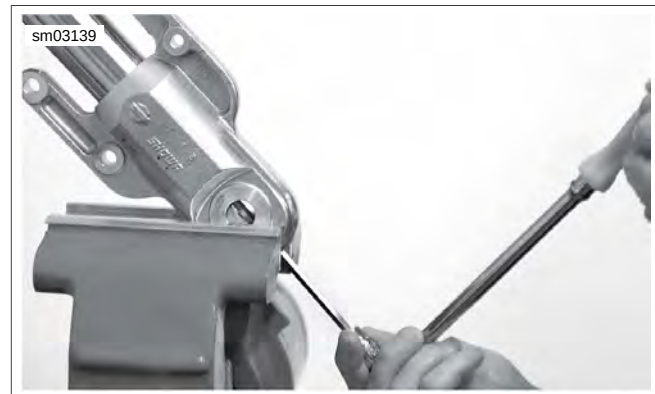

Figure 2-89. Remove Fastener and Copper Washer
8. See Figure 2-89. Place fork slider into bench vise with soft-jaws. Remove fastener and copper washer from bottom of fork assembly.